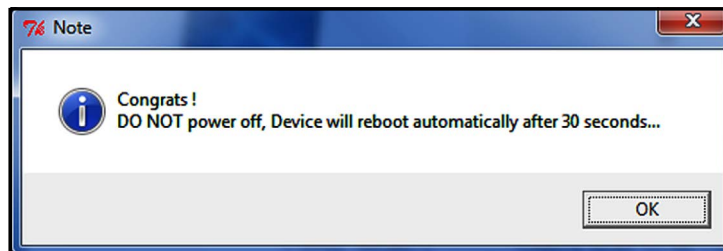

Figure 38: Reboot message
7. After the progress bar indicates that the firmware update is 100% complete (about 10 minutes), the message shown in *Figure 38* below will be displayed. Note that the AT600 will automatically reboot in 30 seconds.